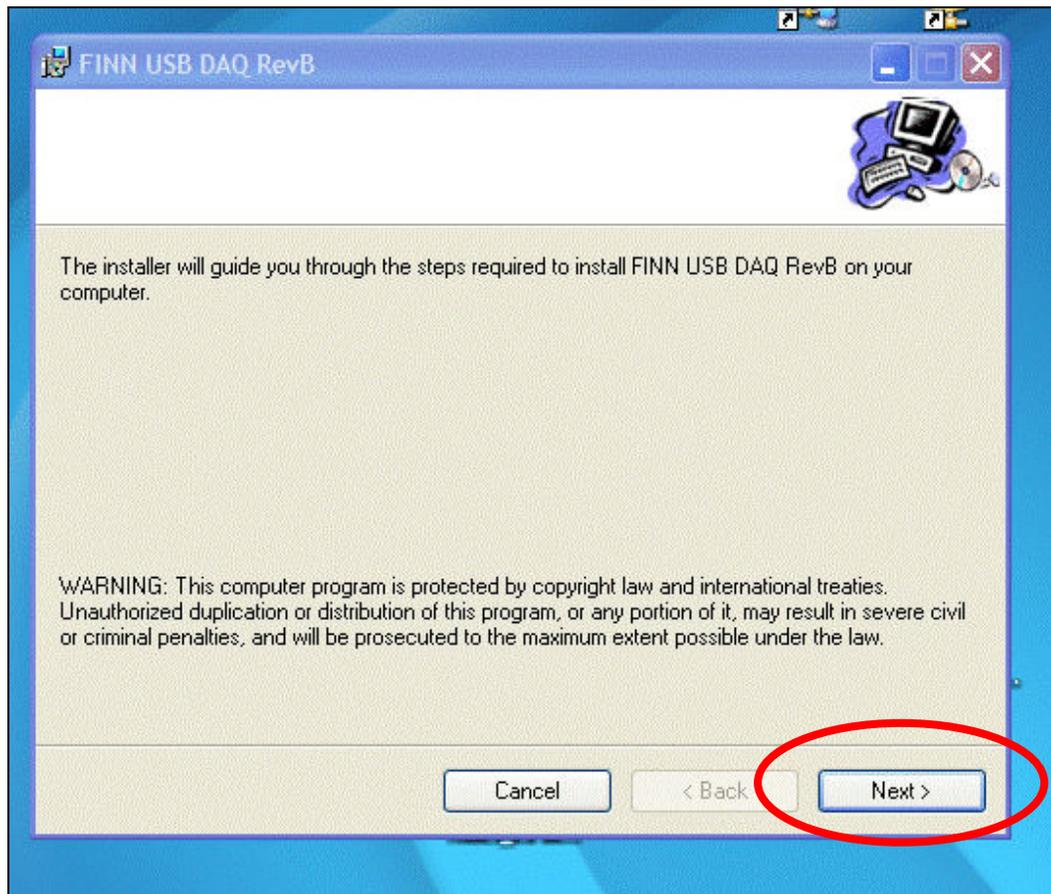

Figure 1
- Double click on the Setup File and the following screen will appear (Figure 1).
- Click on **“Next”** (Figure 1).